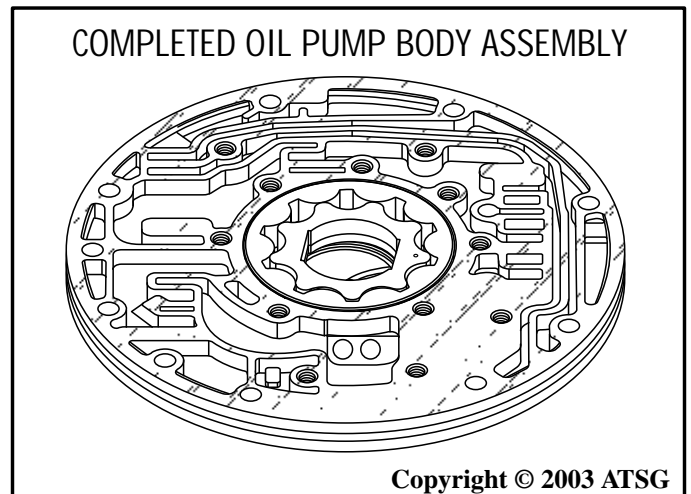

Figure 163
8. Set the completed pump body aside for the future sub-assembly (See Figure 163).